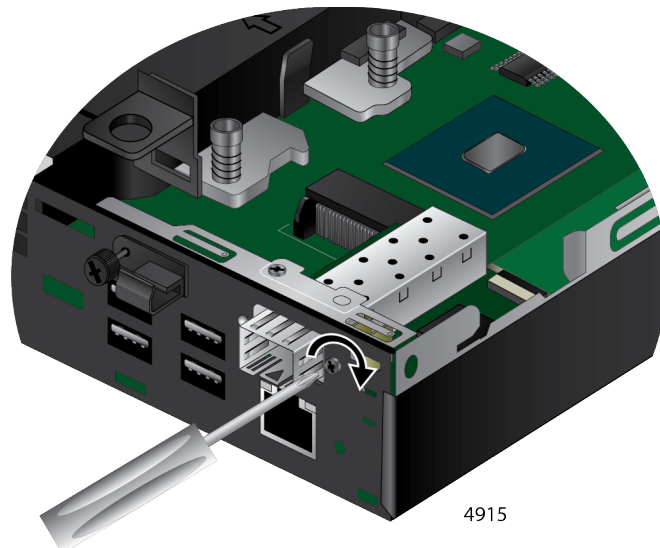

Figure 12. Securing the SFP Board to the Chassis
13. Tighten the screw to secure the SFP board to the chassis. See Figure 12.